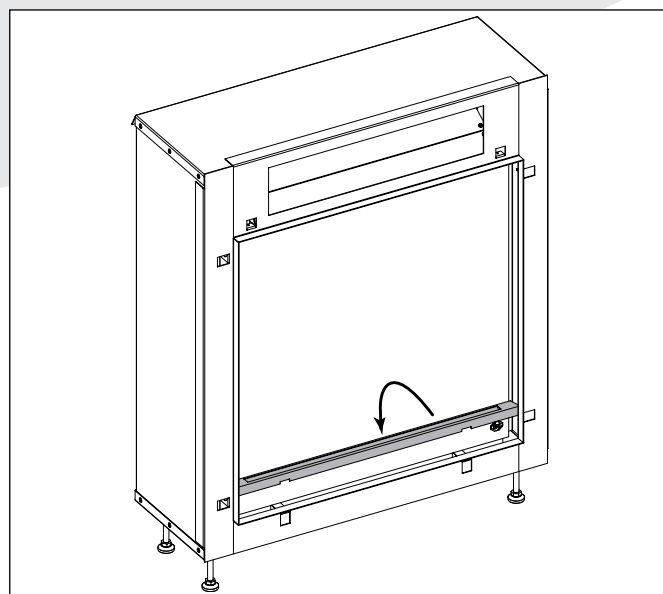

Figure 9
4. Place the air inlet moulding inside the appliance (**figure 9**).